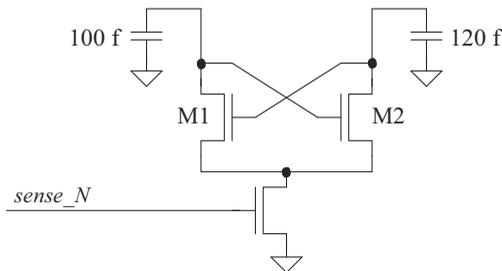

Figure 16.69 Problem 16.2 showing how a mismatch in the load capacitance of an NSA can result in sensing errors.
- 16.2** Consider the NSA seen in Fig. 16.69. Suppose that the load capacitance is mismatched by 20%, as seen in the figure. Assuming that both caps are equilibrated to 0.5 V prior to sensing, which capacitor will fully discharge to ground (which MOSFET will fully turn on)? What voltage difference on the capacitors is needed to cause metastability? Verify your answers with SPICE.